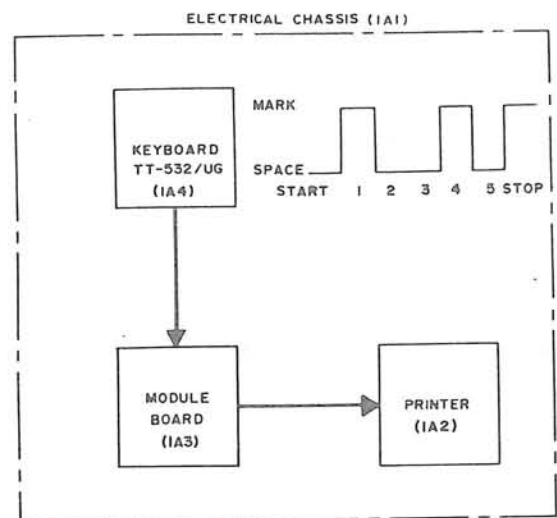

Figure 4-2. Off-Line Local Mode, Block Diagram
Depressing a key or the space bar establishes a code bar position which represents the pulse train to be transmitted to the remote printer or the local printer. The coded pulse train shown in Figure 4-2 represents the letter D, which has a signal code combination of space (no current) pulses on start, 2, 3, and 5 and mark (current) pulses on 1, 4, and stop. For further information on the signal code combinations, refer to Figure 1-2.
c. OFF-LINE LOCAL MODE (See Figure 4-2). - The teletypewriter functions as an electric typewriter in the off-line local mode, requiring only connection to a 115vac, 60 cycle, single phase primary power supply. While in this mode, d-c current for the signal loop is supplied by the line sensor power supply.